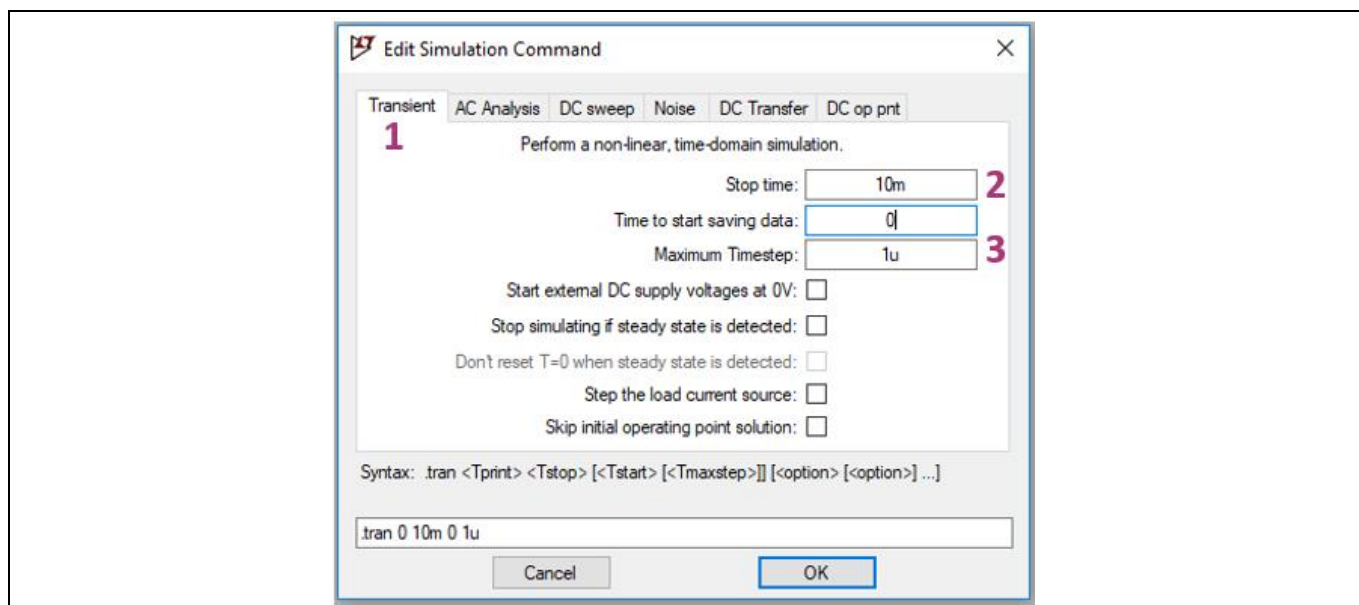

Figure 6 Simulation settings
- **Edit Simulation Command** dialog box appears like in Figure 6